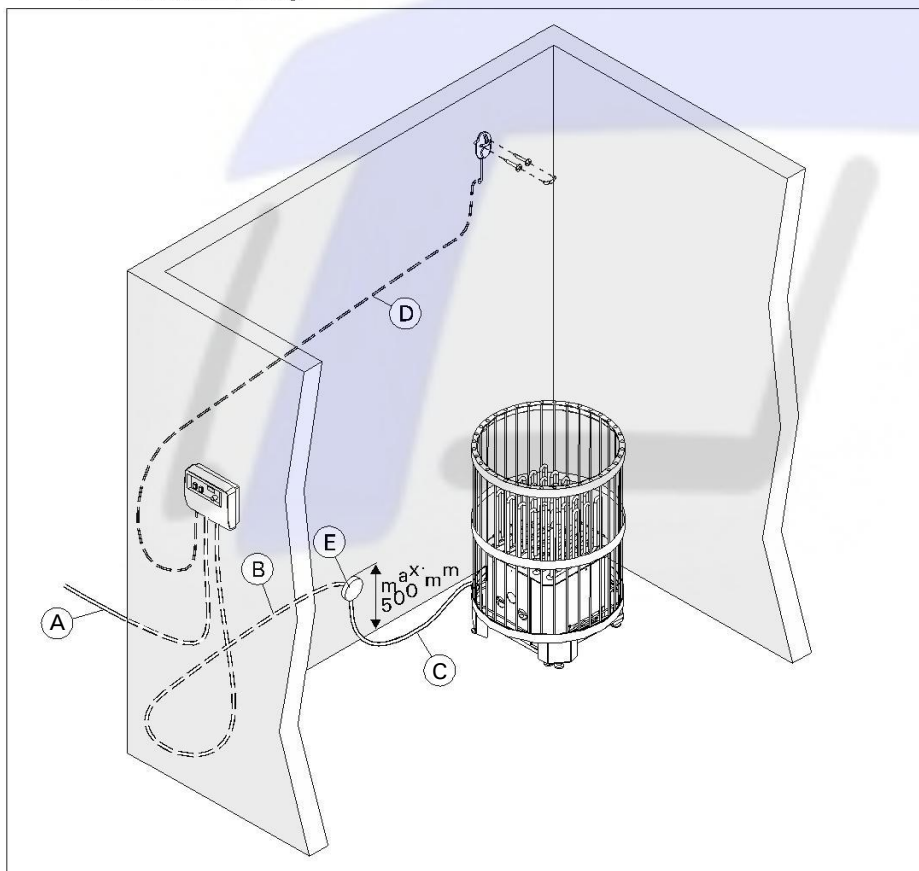

Figure 3. Cables
- The heater is semi-stationarily connected to the junction box (figure 3: E) on the sauna wall. The junction box must be splash-proof, and its maximum height from the floor must not exceed 500 mm.
- The connection cable (figure 3: C) must be of rubber cable type H07RN-F or its equivalent.